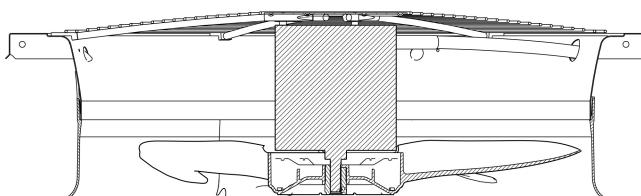

Fig. 25 — Condenser Fan Adjustment
2. Remove condenser-fan assembly (grille, motor, and fan). See Fig. 25.